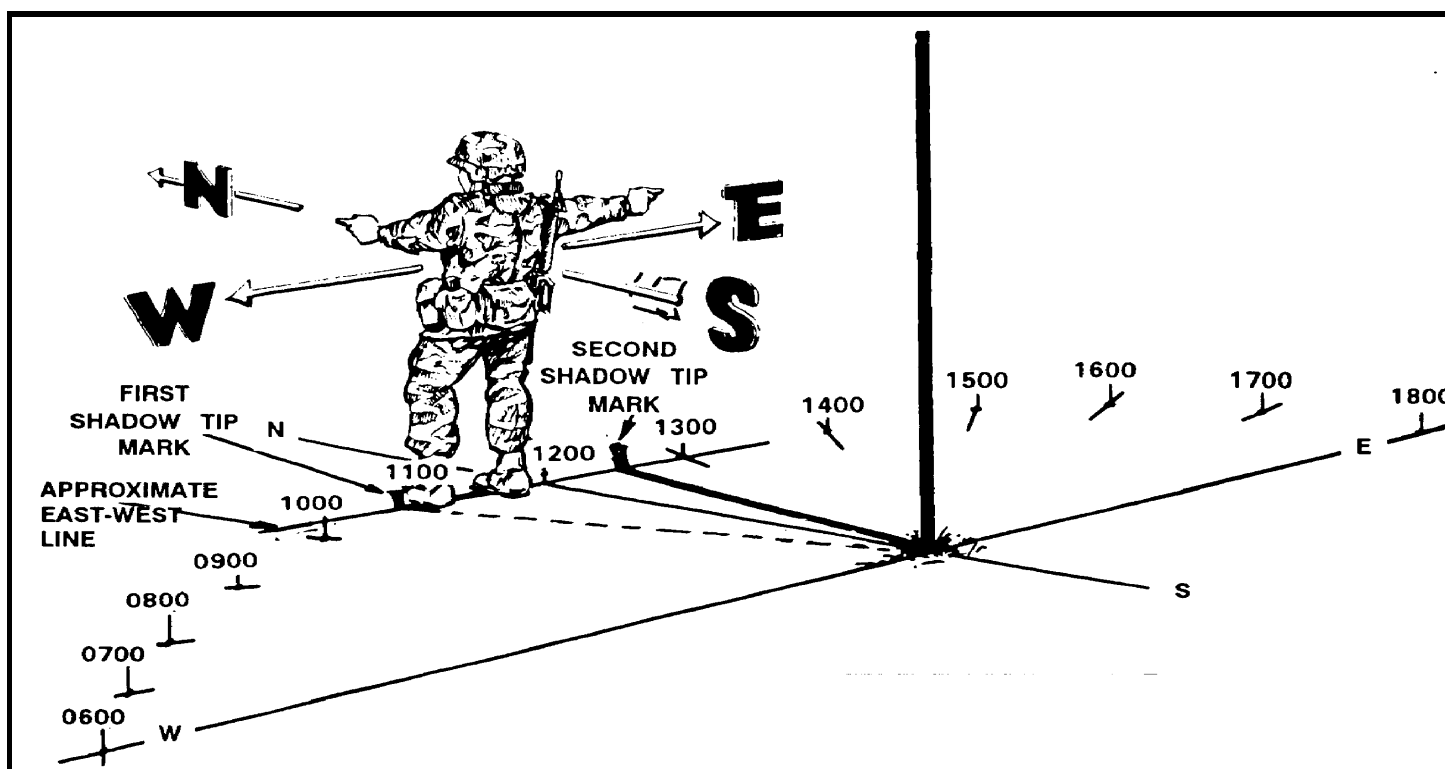

Figure 9-7. Determining directions and time by shadow.
(1) This simple and accurate method of finding direction by the sun consists of four basic steps (Figure 9-7).
(2) A line drawn perpendicular to the east-west line at any point is the approximate north-south line. If you are uncertain which direction is east and which is west, observe this simple rule—the first shadow-tip mark is always in the west direction, everywhere on earth.
(3) The shadow-tip method can also be used as a shadow clock to find the approximate time of day (Figure 9-7).